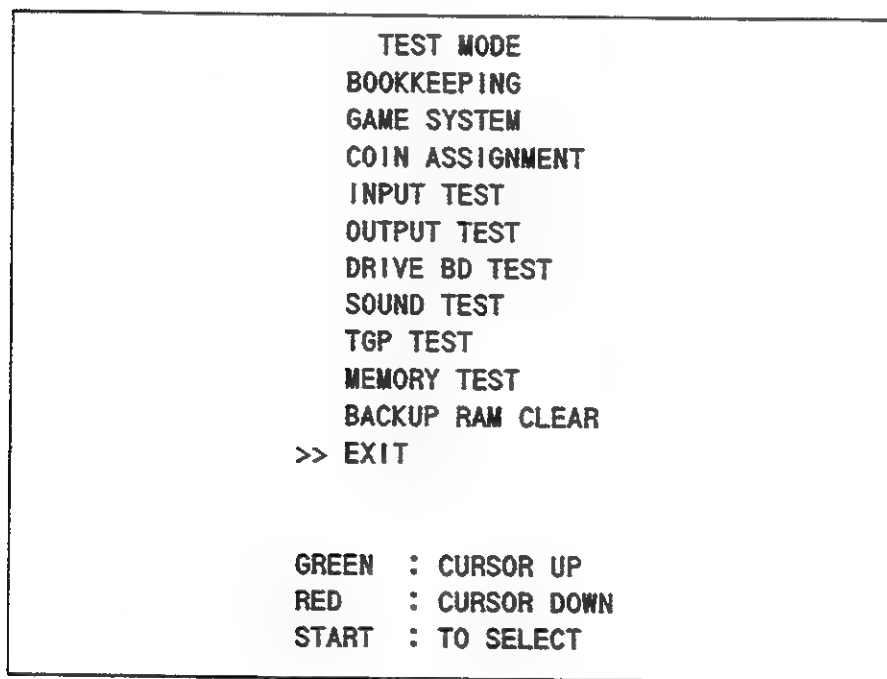

FIG. 10. 2 TEST MENU
- Press the TEST SWITCH to cause the following Test Menu to be displayed on the monitor. (FIG. 10. 2)